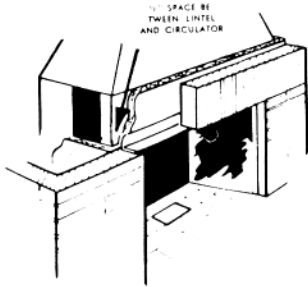

FIG. 5 Setting the lintel
- e) When the top of the fireplace opening is reached, use a metal lintel of adequate strength to support the masonry work above. Set the lintel low enough to conceal the metal apron of the Circulator Unit. Pack loosely generous quantities of insulation behind and at the end of the lintel. (See Figure 5.)